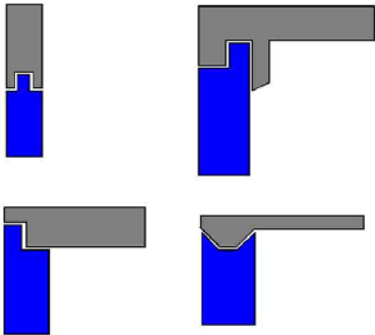

Figure 7. Proper joints and seams reduce the amount of radiated noise that can escape the motor housing. *Picture courtesy of Jastech EMC Consulting, LLC.*
D. Seams and joints in the motor housing or the connection between the motor housing and end cover can also be a source of radiated emissions. The connection should have some form of interlocking or overlapping joint and/or lip. The angles created by the joints/lip make it difficult for radiated waves to penetrate outside of the housing. In addition, the joints/lips increase contact surface area, therefore improving skin current flow. To ensure good conductivity, any oil and paint must be removed from the joints or seams. Figure 7 depicts some examples of proper seams and joints.